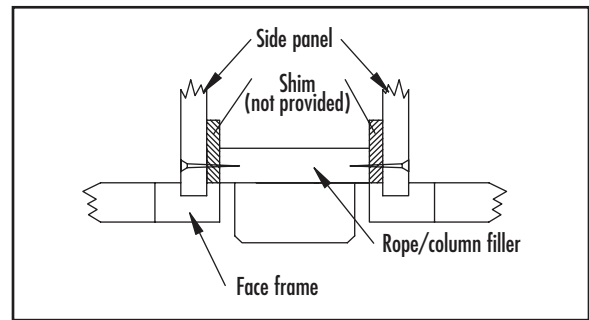

Figure 23
- Clamp filler and any necessary shims in place just behind cabinet face frame (Figure 23).